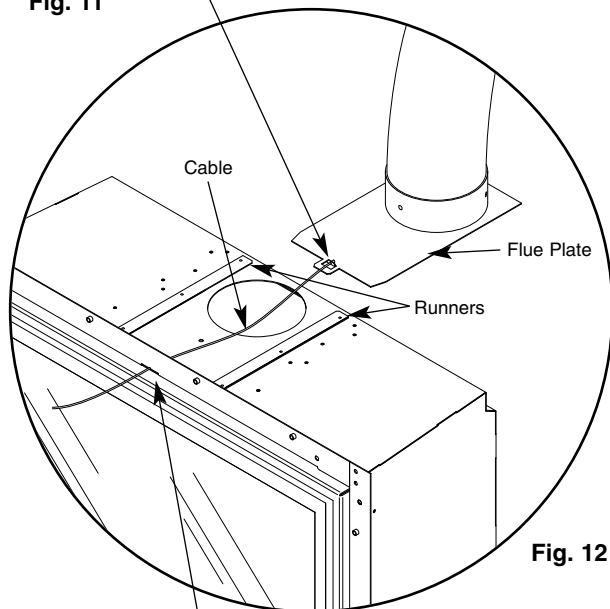

Fig. 12
3. Insert the end of the flexible flue liner into the flue plate ensuring that the cable is at the front and secure with the three self tapping screws provided, then seal around the joint using a proprietary fire cement or mastic (Fig. 12).
6. Locate the front of the flue plate into the runners on top of the fire box (Fig. 12).
7. When the flue plate is located in the runners carefully pull the cable from the front of the fire and slide the fire box into the opening at the same time. The flue plate will slide through the runners and locate the flue over the opening in the fire box (Fig. 12).